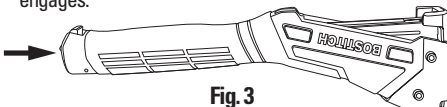

Fig. 3
3. Push slide closed as shown in fig. 3 making sure the latch engages.